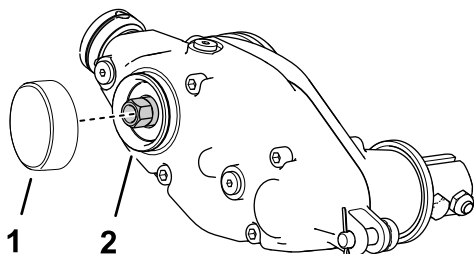

Figure 16
1. Apply medium-strength cylindrical bonding retaining compound (such as Green Loctite 609®) around the snap ring groove and the outer diameter surface (Figure 16).
2. Install the cap as shown in Figure 16.